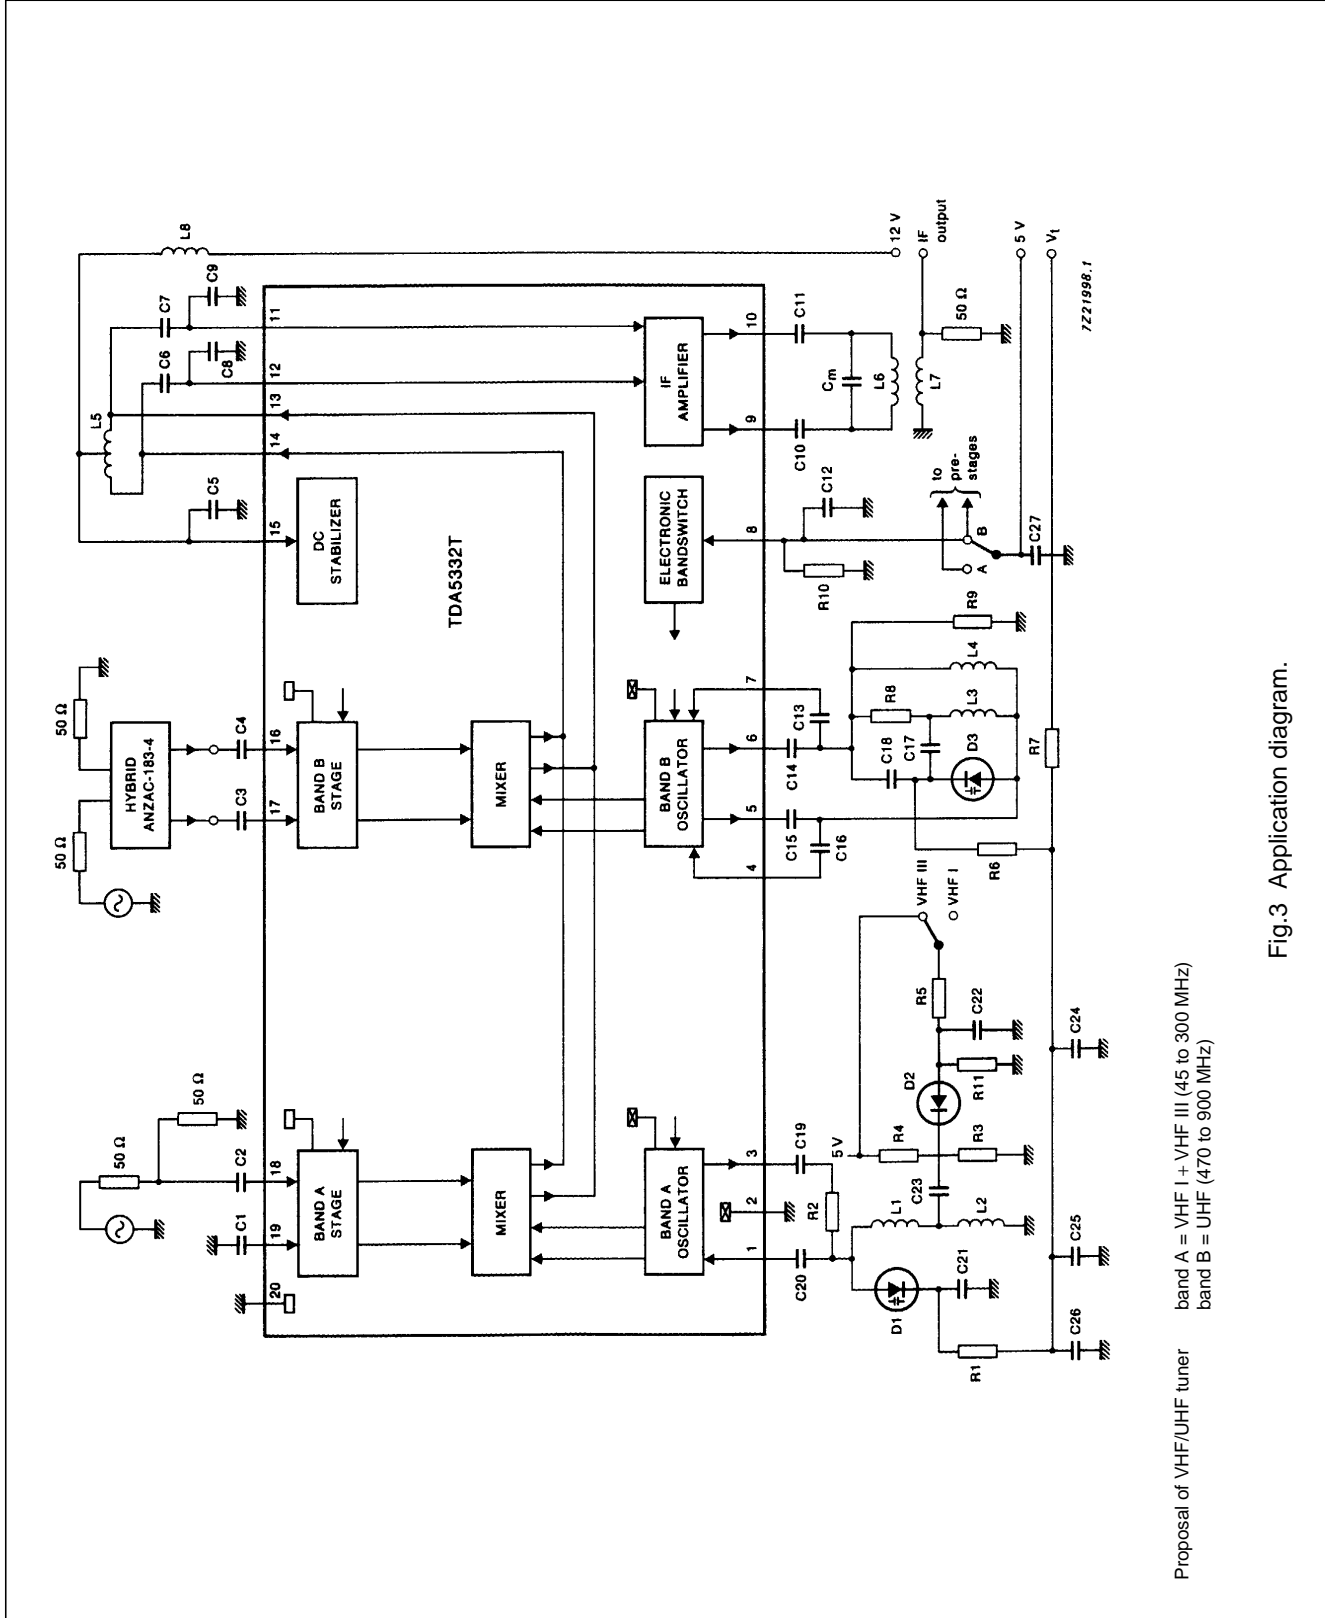

Fig.3 Application diagram.
$V_P = 12\text{ V}$; $T_{amb} = 25\text{ }^\circ\text{C}$; all voltages are referenced to ground (pins 2 and 20); measured in Fig.3; unless otherwise specified.
Band A mixer (including IF amplifier)	measured using circuit shown in Fig.3
- The gain is defined as the transducer gain (measured in Fig.3) plus the voltage transformation ratio of L6 to L7 (6:1, 16 dB).